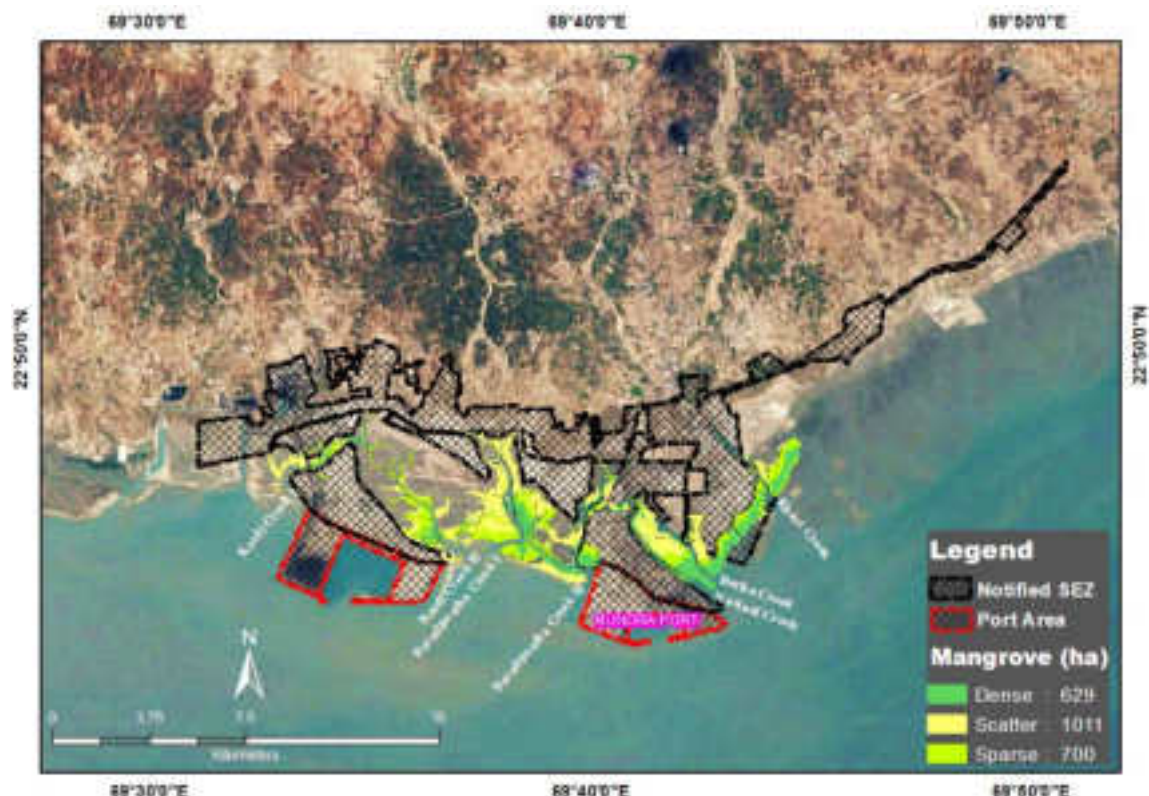
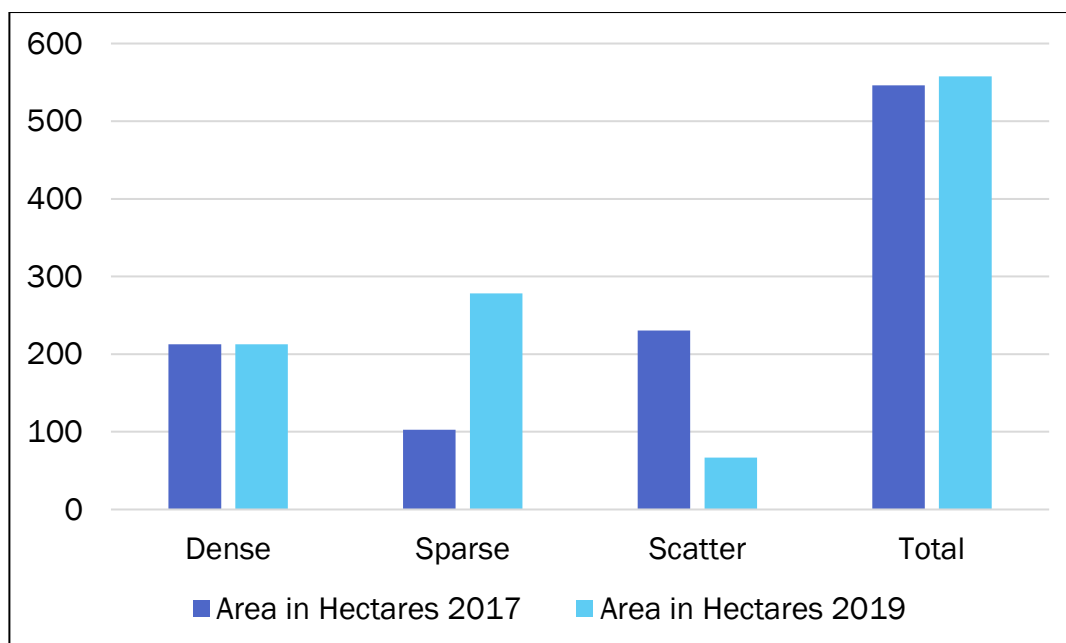

Fig.1. APSEZ area, creeks and mangrove formation along the creeks
Figure 12: Comparison on distribution of mangroves between 2017 and 2019 in Navinal Bocha creek system
- i. In the Conservation plan prepared for creeks and mangroves of APSEZ, it was observed that there has been overall increase in mangrove area by 246 ha in 2016-17 in the creeks in and around APSEZ compared to 2011 indicating existence of near healthy conditions for growth of the mangroves. The extent of mangrove cover will be mapped in the creeks Kotdi (I & II), Baradimatha (I & II), Navinal, Bocha and Khari creeks using High resolution satellite images of late 2019. These creeks have been indicated in Fig.1.
Further for both the start year (2017 March) and the end year (Sep.2019) Google earth image was used as a source and therefore, the results will be quite acceptable for assessment. With regard to overall health of mangroves in the creeks in and around APSEZ, it was found that there was an increase of mangrove cover between March 2017 and Sep 2019 to an extent of 256 ha which is about 10.7% increase in mangroves. It reveals that the mangrove and the tidal system in the creeks remained undisturbed over this period (Table 1 and Figs.1 to 3). Analysis of data between categories indicated that there was an increase in dense mangroves and also conversion of scattered to sparse which also shows that the growth of mangroves in a progressive direction (Table 2 and Figs 3 to 5).
The creek system is complex with Navinal creek situated abutting to Adani Port and the eastern Bocha creek connecting to Navinal creek in the north leading to formation of Bocha island which has substantial dense mangroves. The mouth of creeks has good tidal inflow especially in Navinal creek as its mouth forms entry to the Port. The Navinal creek becomes narrow towards north and flows eastward to connect with Bocha creek (Fig.1). The creeks have fair to good growth of mangroves on their bank with dense mangroves in the Bocha island and the Figs.12 to 14 show the distribution of mangroves in 2017 and 2019 respectively.
The data on distribution of various categories of mangroves have been shown in Table 5 and Fig.12. The mangroves of the creek system have almost remained at 2017 level with marginal increase of 11.43 ha which is an increase of 2.1%. At pre-pages the recommendation made in the conservation plan has been mentioned. Accordingly, if there has been a decrease in mangroves less than 10% to the 2017 level, then the tidal flow in the creeks needs to be studied to check reduction in tidal flow, as the tidal flow is the key parameters for survival and growth of mangroves. As the present data has shown an increase of 2.1% cover of mangroves in the Navinal-Bocha island and Bocha creek system, in general, overall mangrove health is normal with usual tidal flow.